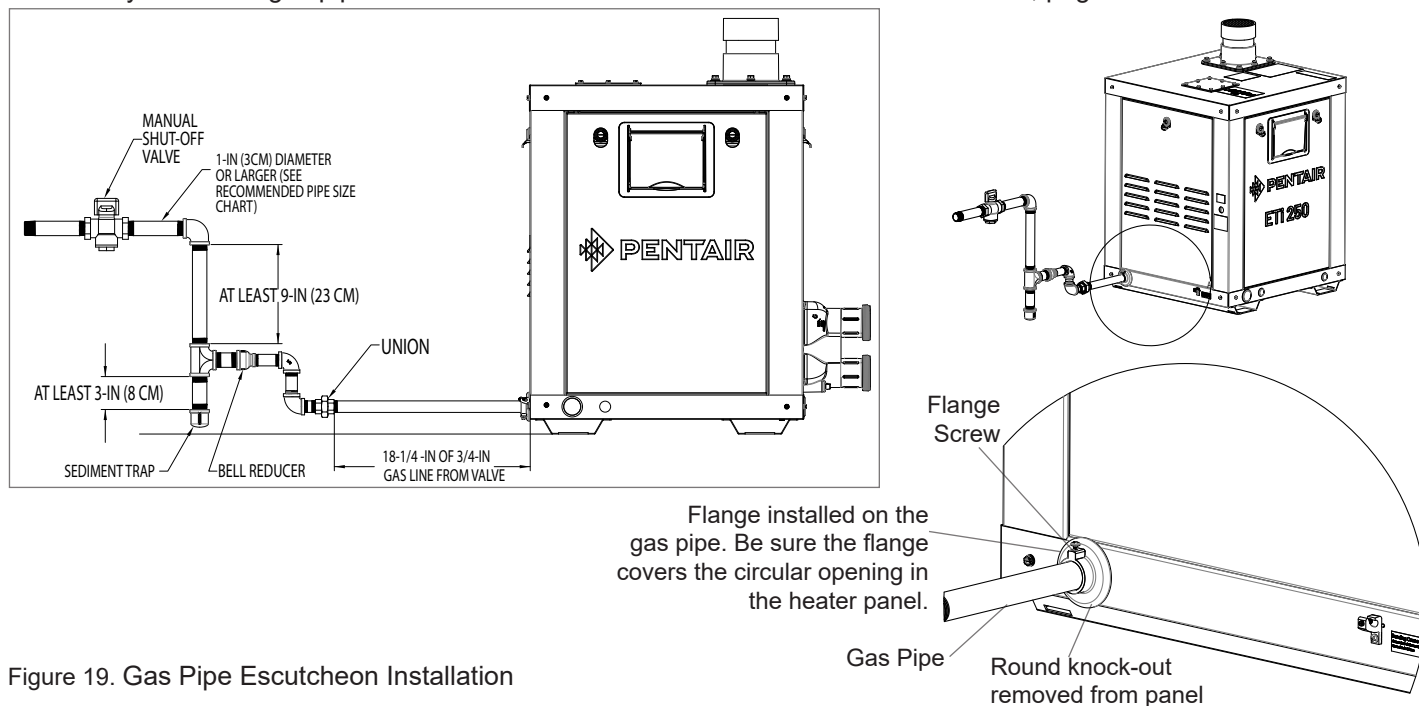

Figure 19. Gas Pipe Escutcheon Installation
2. When installing the 3/4" pipe into the gas valve, place the gas pipe escutcheon over the pipe so that the larger circle is facing the heater's service panel and the smaller circle with the screw is facing away for the heater service panel (toward the union) as shown in Figure 19.